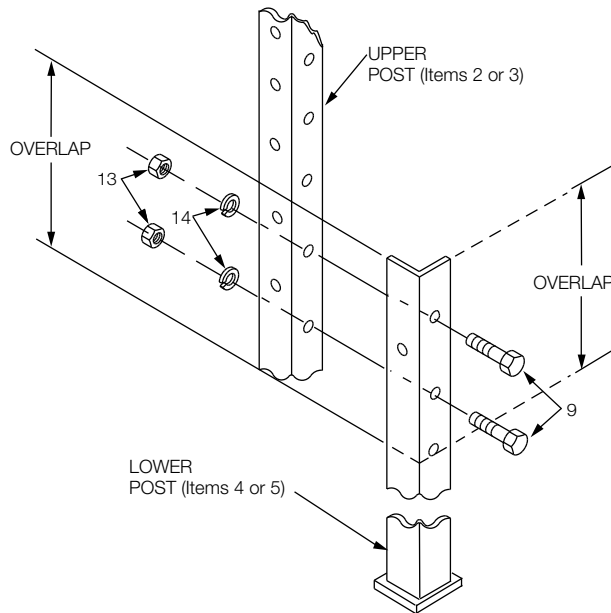

Figure 4. Attaching upper post to lower post.
1. Overlap the upper and lower posts (Figure 4) as needed to obtain the desired height of the frame. See the **Frame Height** section of this manual.
- B. Secure the upper posts (Items 2 and 3) and lower posts (Items 4 and 5) with 1.25" hex head capscrews (Item 9), and secure with lockwashers (Item 14) and .5" hex nuts (Item 13). See Figures 4 and 6.